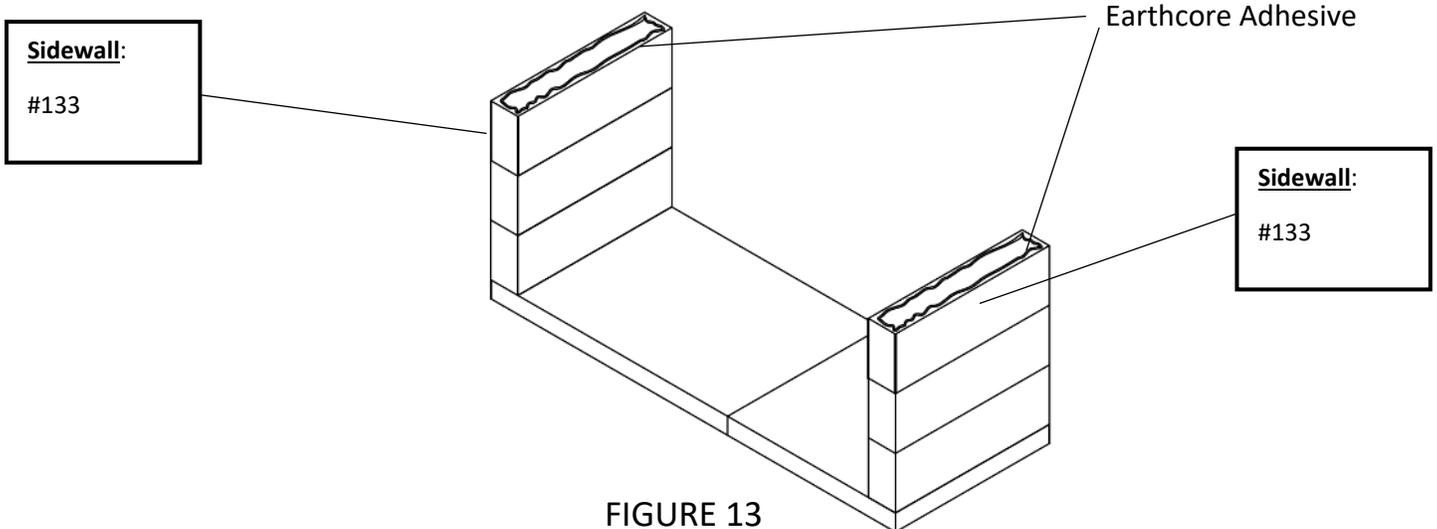

FIGURE 13
- 3) Continue assembly of the consecutive courses of the firebox side walls. Apply Earthcore Adhesive to the top of each layer of side wall components before setting the next course in place (**Figure 13**). Look for some Earthcore Adhesive to squeeze out along the joints of all contact surfaces as a sign that the joint is thoroughly sealed with the approved Earthcore Adhesive.